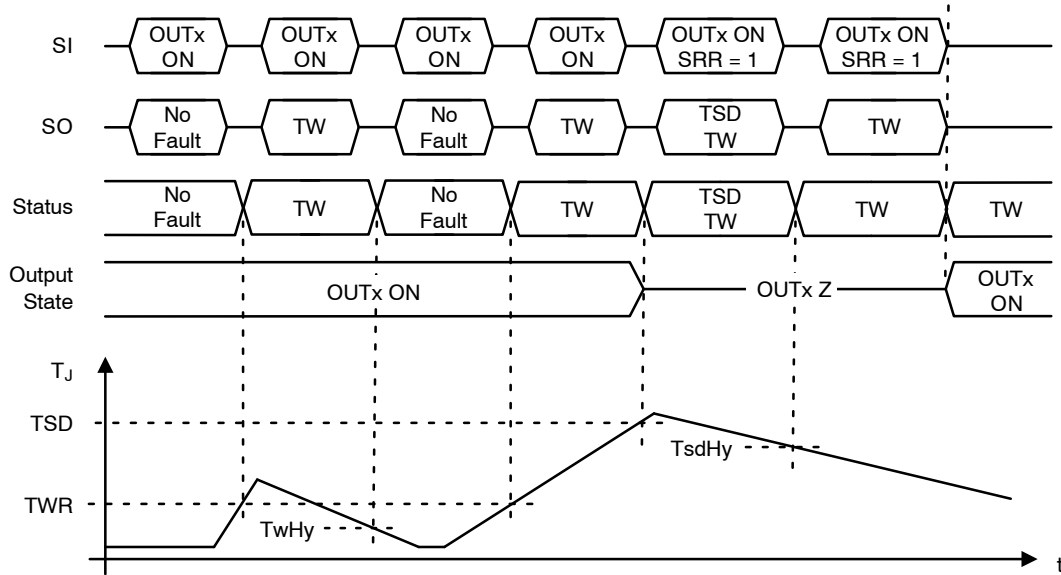

Figure 25. Thermal Warning and Shutdown Timing
Thermal warning (TW) and thermal shutdown (TSD) detection and control are provided for each half-bridge by monitoring the driver pair’s thermal sensor. Thermal hysteresis is provided for each of the warning and shutdown functions to ensure clean detection transitions. Software polling of the TW bit allows for avoidance of thermal shutdown since TW notification precedes TSD notification. Thermal warning and shutdown timing is shown in Figure 25.